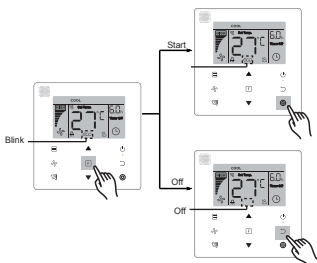

Figure 6.13
- Turn ON/OFF the **"ECO"** function: press **[F]** (Function) button to switch to the **"ECO"** function ("**eco**" blinks), and press **[Enter]** (Confirm) button to turn on the function or **[Cancel]** (Cancel) button to turn off the function (see Figure 6.13).